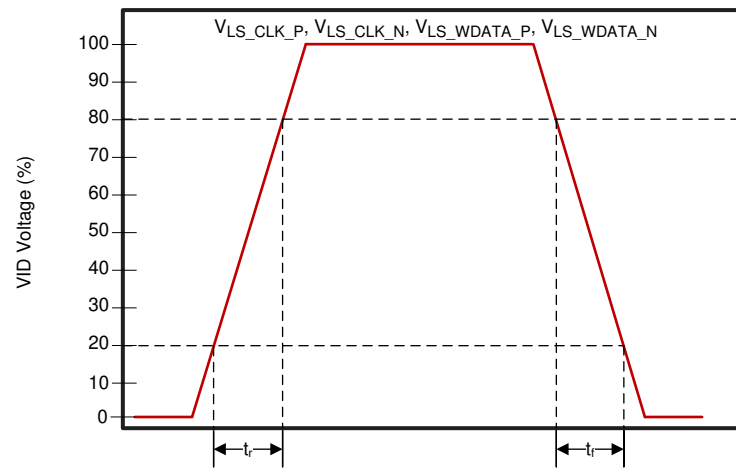

图 5-5. LSIF Rise, Fall Time Slew
(2) See 图 5-5 for rise time and fall time for LSIF.